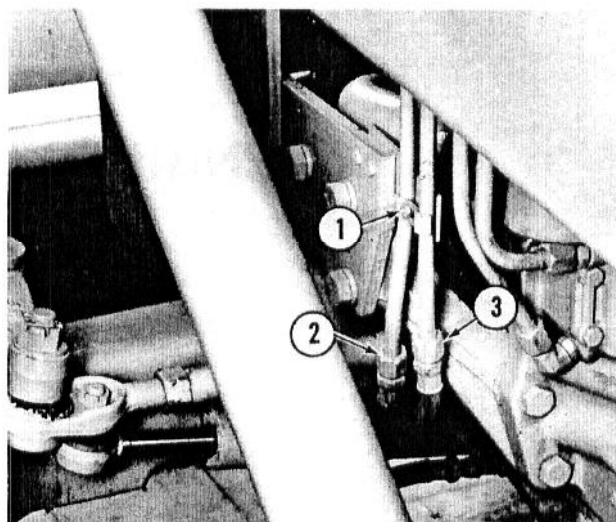

Fig. 3 — STEERING LINES TO STEERING CYLINDERS
8. Disconnect the steering lines from the hoses to the cylinders. See Fig. 3. (Tag the lines so they may be identified with their connecting hoses when reassembling the tractor.) Loosen the clamp securing the tubes and make sure these tubes will be free to move with the engine (when it is separated from the front end).